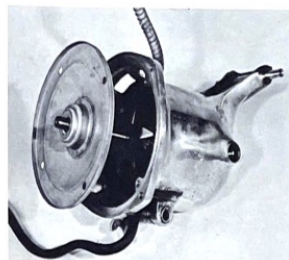

Figure 1-25. Installing front bearing plate
k. Install the assembled front bearing plate and bearing, with the bearing inward as shown in figure 1-25, over the armature shaft and